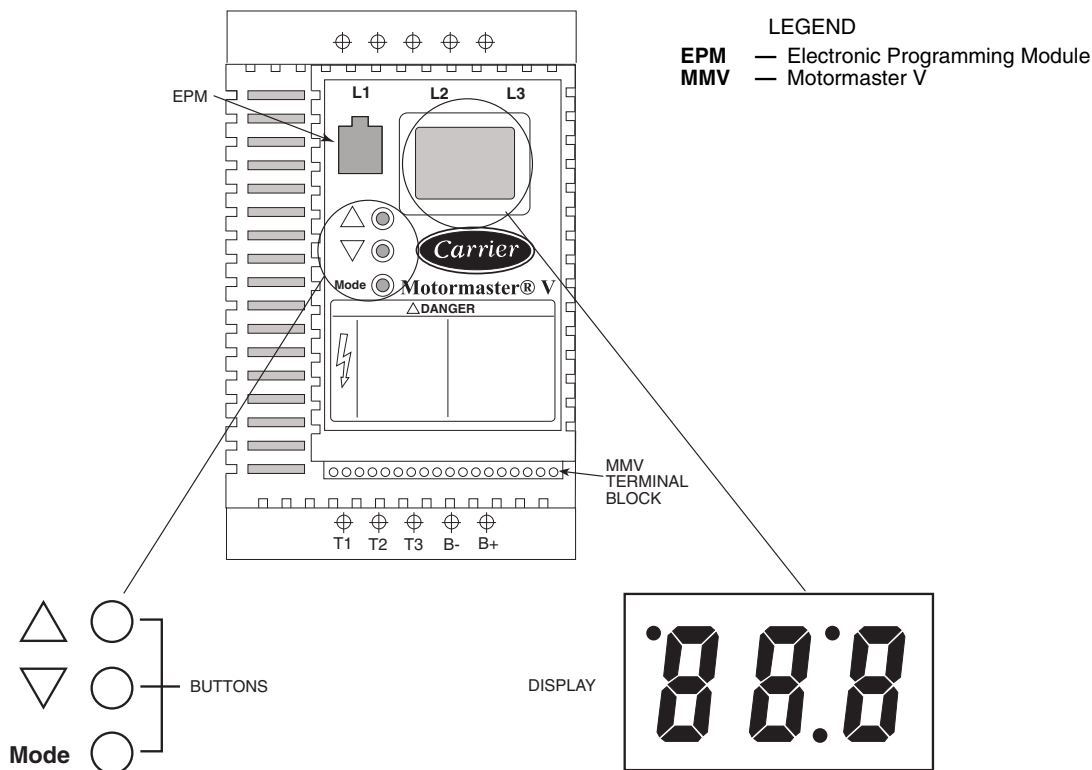

Fig. 59 — Motormaster® V Mode Buttons and Mode Display
CONFIGURATION — The MMV is configured for 1 of 12 operation modes based on the inputs to the control terminal block. The 30RAP units use operating modes 5-8. In these configurations, the MMV follows a 4 to 20 mA speed reference signal present on terminals 25 (+) and 2 (-). The Aux board generates a 2 to 10 vdc signal that is converted to a 4 to 20 mA signal by means of a 240 Ω 1/4 w resistor in series with the positive (+) signal wire. One additional jumper is required to configure the drive for 50/60 Hz operation and input voltage. See Table 41 for proper inputs. Once the drive is powered, it will change to the mode selected according to the inputs. See Fig. 59.
1. To enter the PROGRAM mode to access the parameters, press the Mode button. This will activate the password prompt (if the password has not been disabled). The display will read “00” and the upper right-hand decimal point will be blinking. See Fig. 59.
The drive uses an electronic programming module (EPM) chip to store the program parameters. This is an EPROM memory chip and is accessible from the front of the Motormaster V. It should not be removed with power applied to the VFD. See Fig. 59.